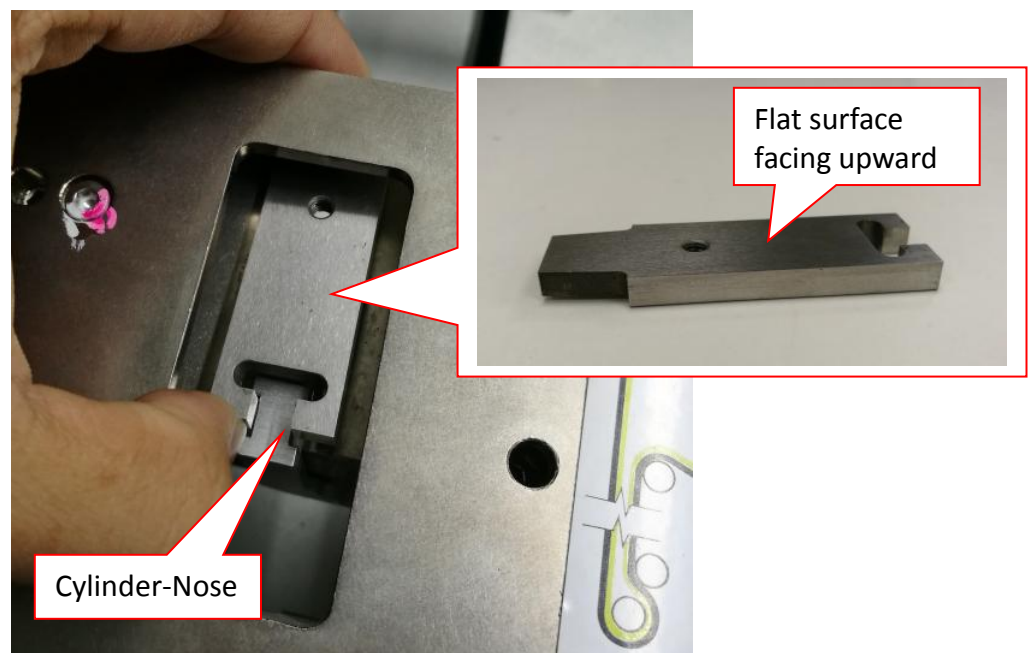

Figure 4 Stop, PC Board
2. Gently assemble new Stop, PC Board at Cylinder-Nose by refer to below orientation (Figure 4)